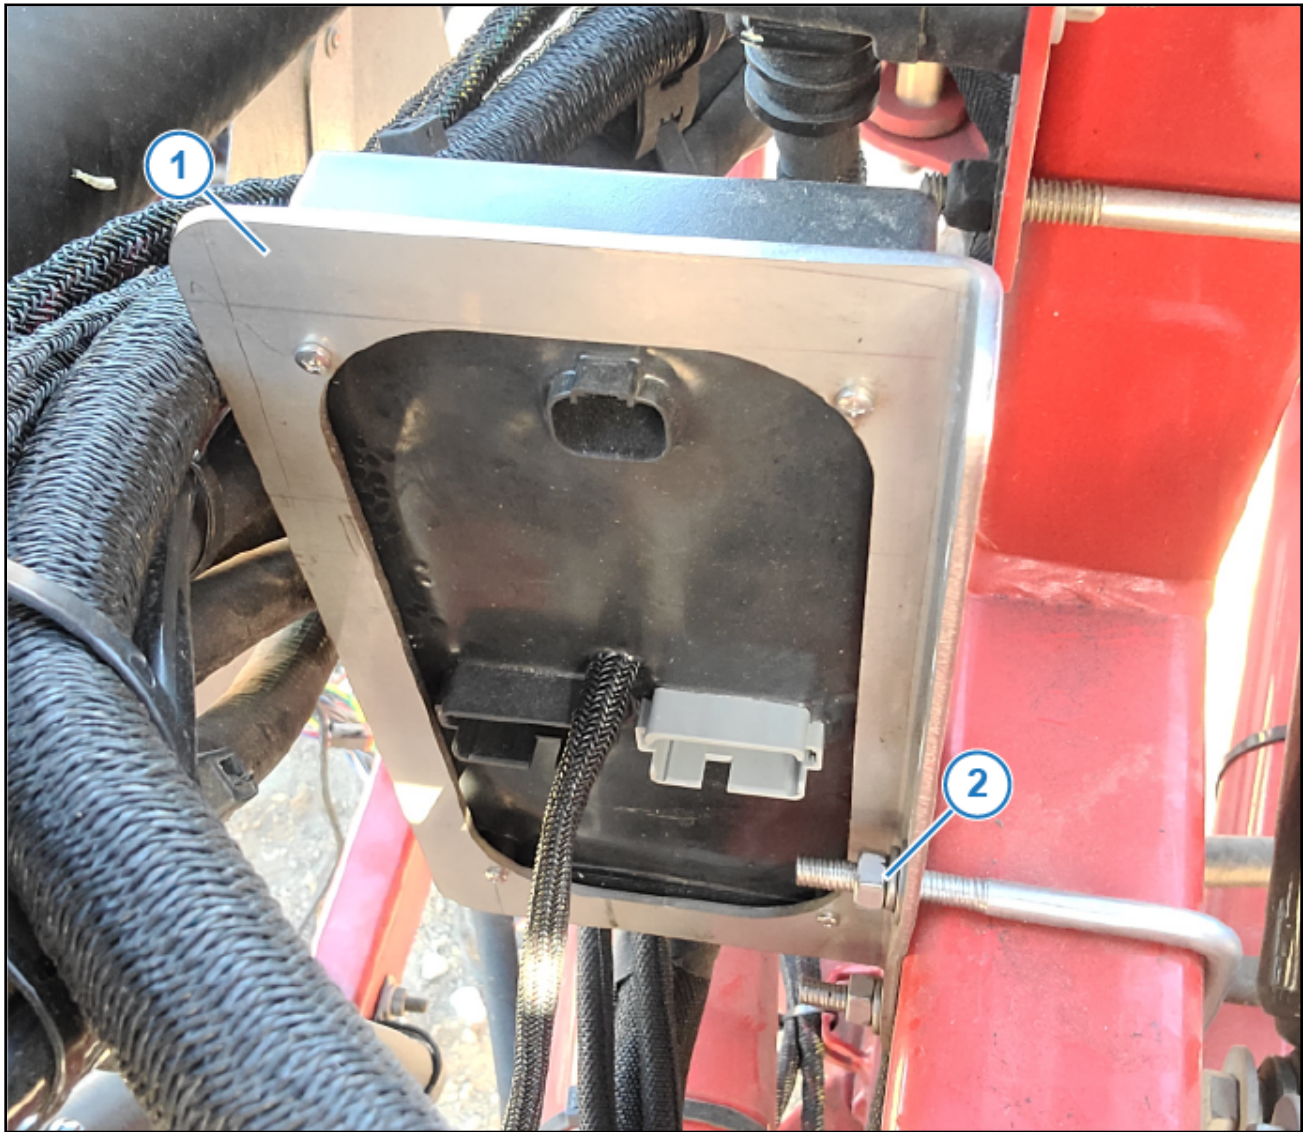

Figure 2: RCM Adapter Location
3. Install the RCM Adapter (P/N:) (Figure 2, Item 1) using the included hardware (Figure 2, Item 2).